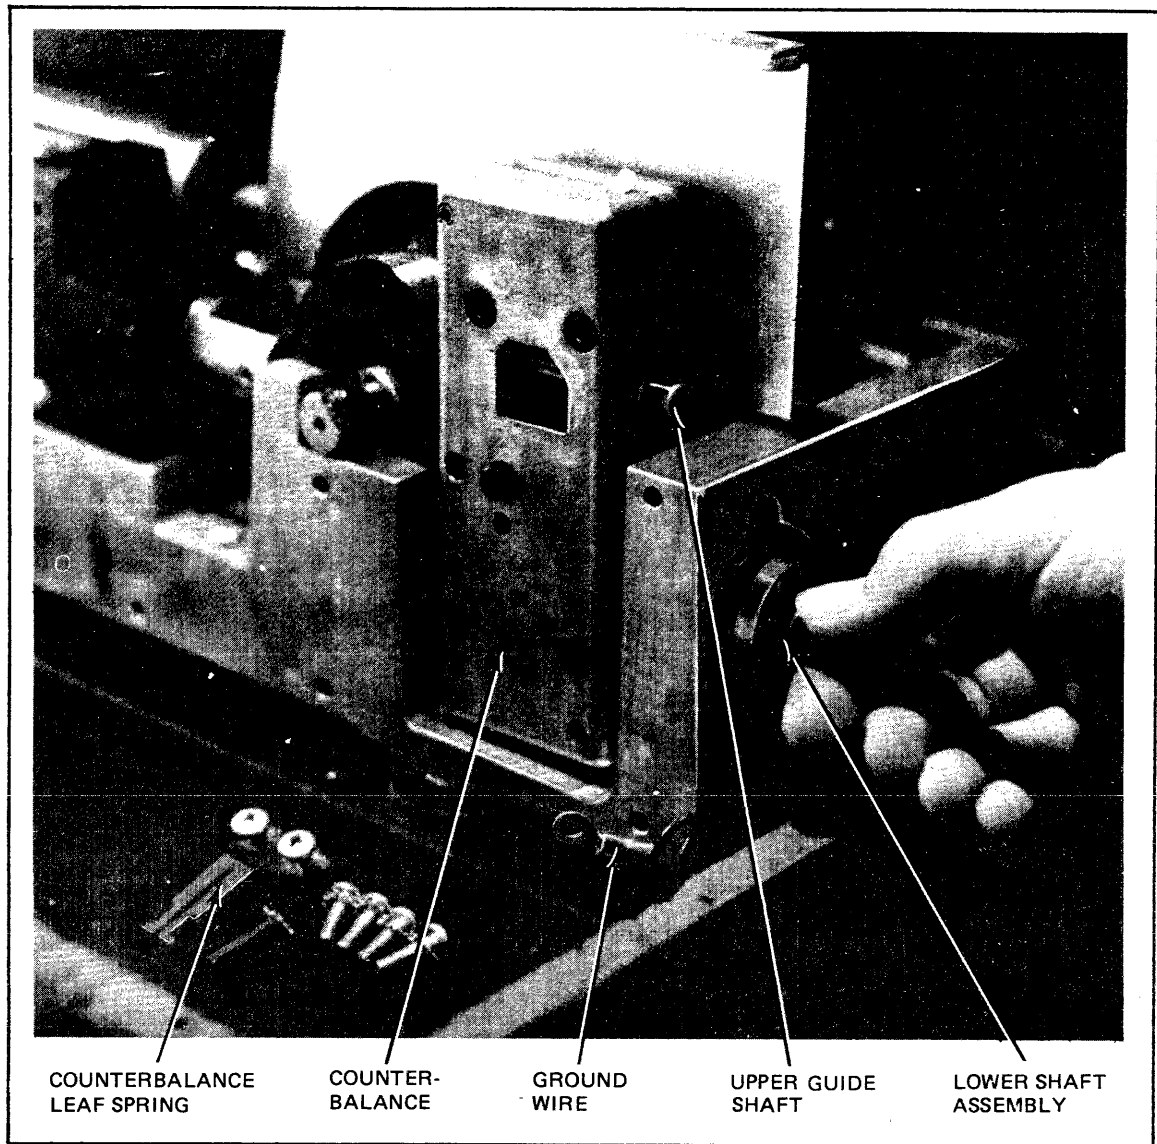

Figure 60 Removing Counterbalance Assembly
- d. Remove the four screws and star washers from the lower shaft assembly, then pull the lower shaft assembly out of the counterbalance (figure 60).